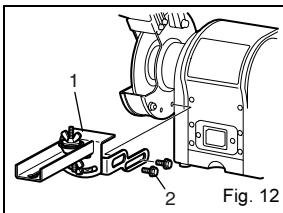

Fig. 12
■ Assembly and attach saw blade sharpening kit as in Fig. 12.